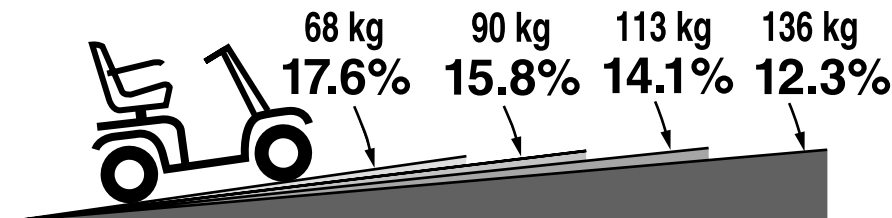

FIGURE 1. MAXIMUM RECOMMENDED INCLINE ANGLE FOR THE BOXSTER
Handicap public access ramps are not subject to government regulation in all countries, and therefore do not necessarily share the same standard percent of slope. Other inclines may be natural or, if man-made, not designed specifically for Scooters. Figure 1 illustrates your Boxster's stability and its ability to climb grades under various weight loads and under controlled testing conditions.
**WARNING! Any attempt to climb or descend a slope steeper than shown in figure 1 may put your Scooter in an unstable position and cause it to tip, resulting in personal injury.**